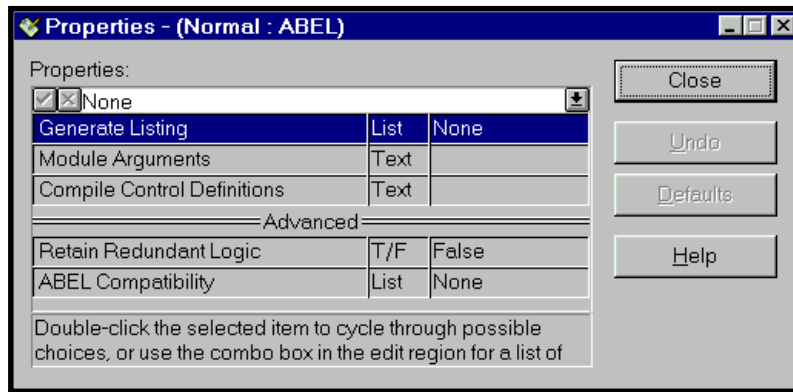

Figure 3-4. Properties - (Normal: ABEL) Dialog Box
5. With the ABEL-HDL file highlighted, the Compile Logic item in the Process list should also be highlighted. Click the **Properties** button. The Properties dialog box (Figure 3-4) appears.